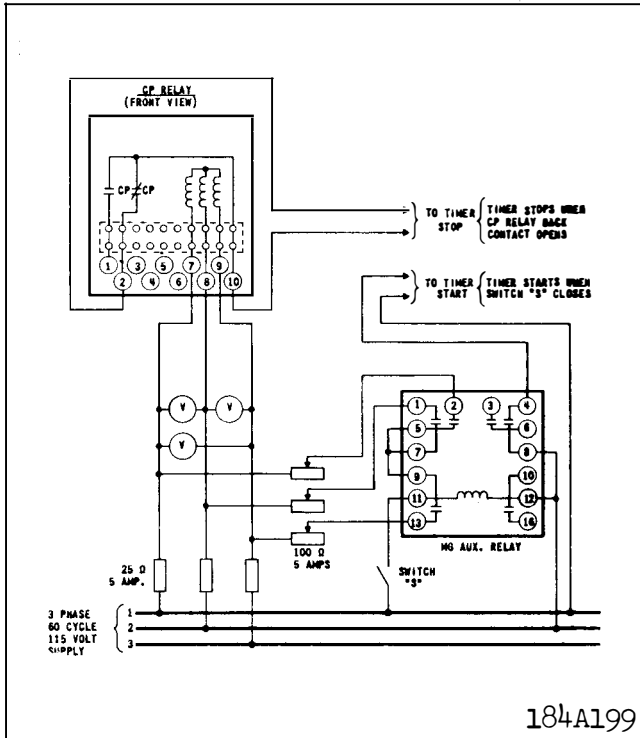

Fig. 8. Diagram of Test Connection for checking the Undervoltage Time Curves of the Type CP Relay.
3. **Time Curve** — The time curve can be checked by the use of the circuits of Figs. 8 and 9.
3. Time Curve Calibration — Install the permanent magnet and connect the relay as per the circuit of Fig. 8.